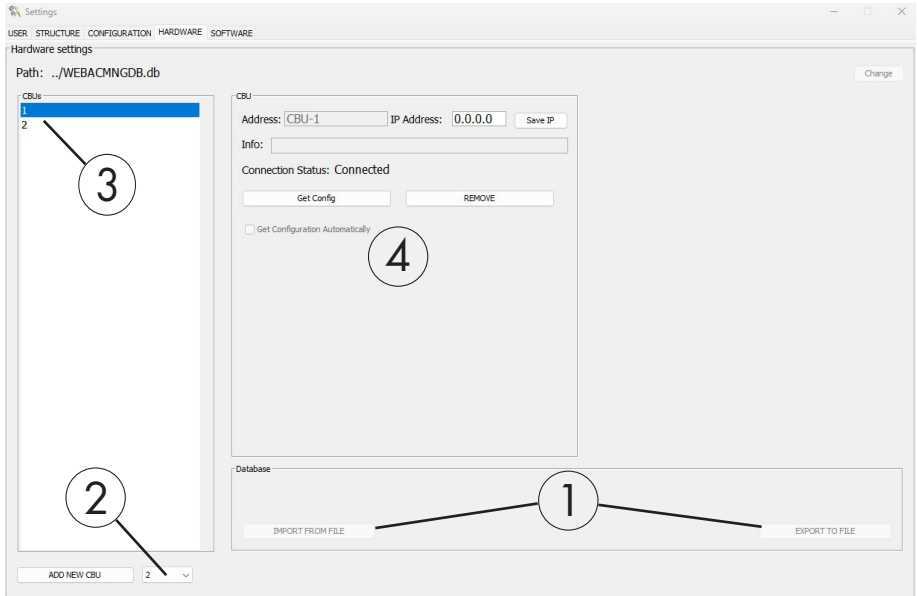

Figure 4. SETTINGS window, HARDWARE tab
1. (No. 2 in Figure 4) Select the address of the CBU from the drop-down list, and click ADD NEW CBU.
2. Select the CBU from the CBU's list (No. 3 in Figure 4).
3. Type in the IP address of the CBU and click Save IP. (No. 4 in Figure 4).
7. Database importing and exporting (No. 1 in Figure 4) are not active in WebACM version 1.2.
4. For CBU's that do not have 18 boards, you can disable the absent boards by selecting the first absent board on a CBU, and selecting Disabled from the toolbar (No. 4 in the Figure 4).